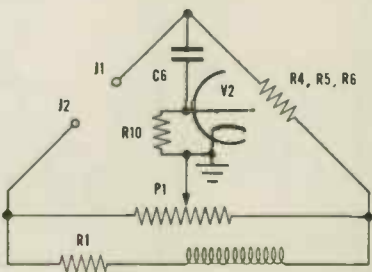

Fig. 4
- Fig. 4. Bridge circuit for ".5 Ω - 500 Ω " range (R4), "50 Ω - 50,000 Ω " range (R5), and "5000 Ω - 5 M Ω " range (R6).
- Fig. 5. Bridge circuit for "5 M Ω - 500 M Ω " EXPanded range. R2 expands resistance measurement range as compared to circuit of Fig. 4.